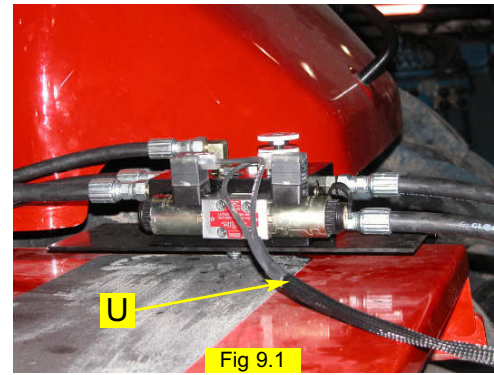
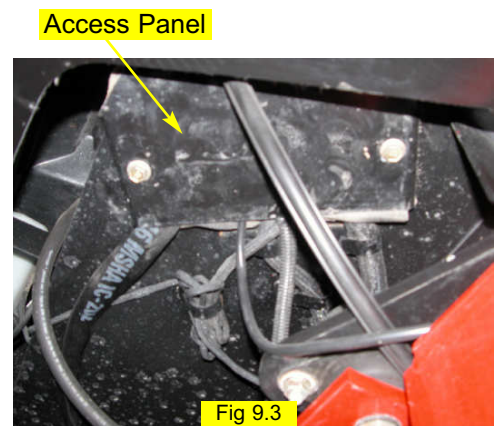

Fig 9.1
Fig 9.3
Connect the valve control cable (U) to the hydraulic control block and route it into the cab. (Figure 9.1 and 9.2) An access panel can be removed from under the back right corner of the cab to allow routing of the valve cable. (Figure 9.3 and 9.4) Secure enough slack in the valve cable to allow for tractor articulation.